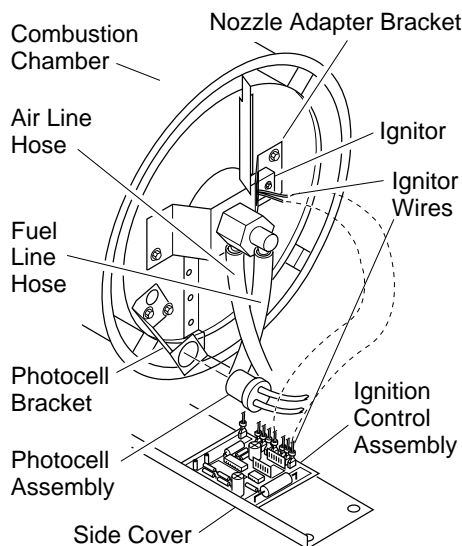

Figure 9 - Disconnecting Ignitor Wires from Ignition Control Assembly
4. Disconnect ignitor wires (yellow) from ignition control assembly (see Figure 9). Pull the ignitor wires up through the hole in the lower shell.
5. Disconnect fuel line hose and air line hose. Remove photocell from photocell bracket (see Figure 9).
13. Connect and route fuel line hose and air line hose to nozzle adapter (see Figure 9).